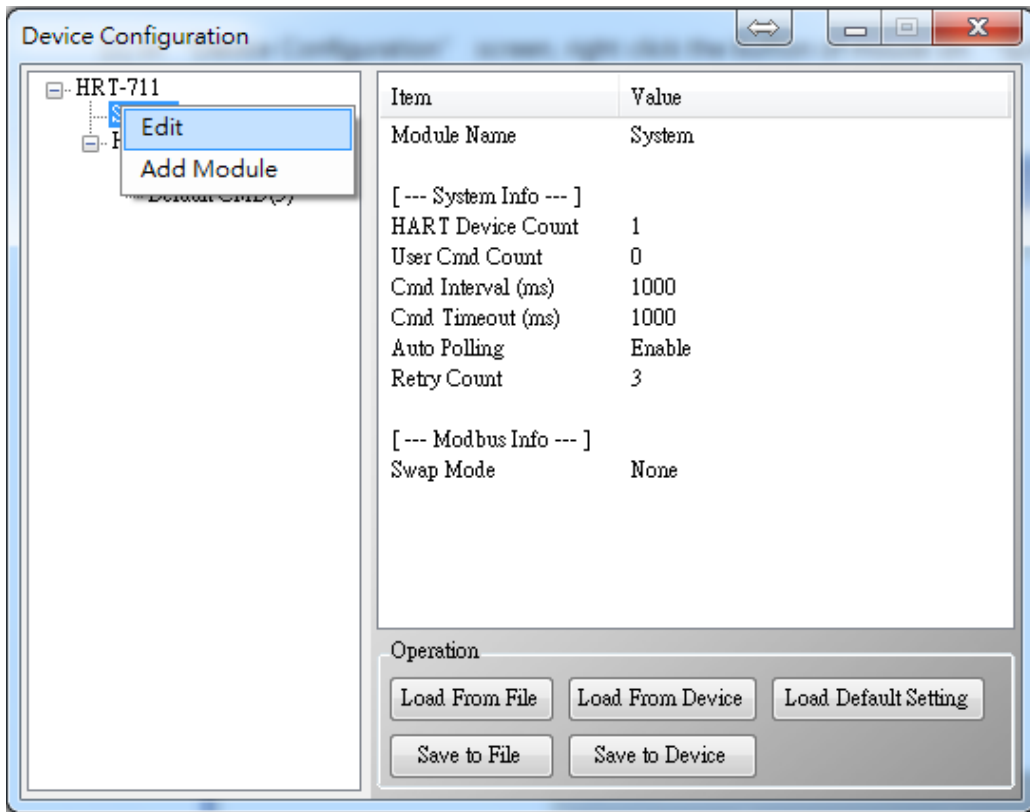

Figure 3-1 Open “System Edit” screen
- (1) Make sure that the communication between HRT-710 and HART device is ok. (Refer to the steps of Q02)
- (2) Set “Swap Mode” of system setting in HRT-710 to be “W&B”.
- [1] In “Device Configuration” screen, right click the button of mouse on “System” item and click the “Edit” option to open “System Edit” screen like Figure 3-1.